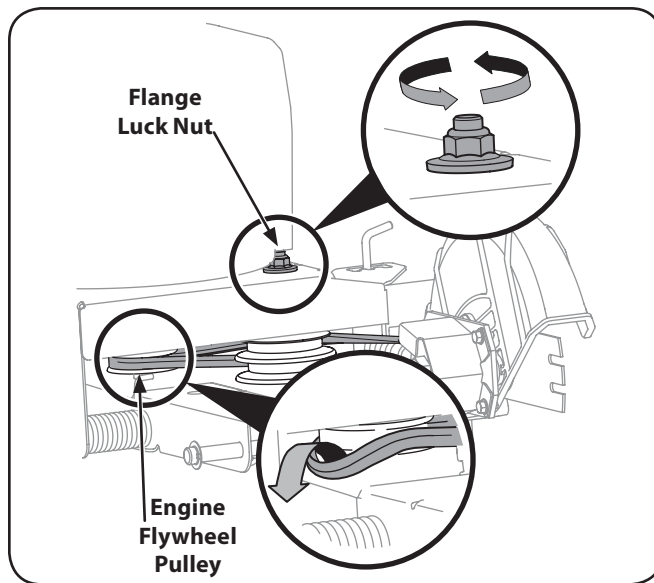

Figure 7-1
NOTE: To aid in reassembly, note the orientation of the drive belt on the two idler pulleys and the engine flywheel pulley prior to performing the following steps. Refer to Fig. 7-1.
1. Working in front of the edger, loosen the flange lock nut on top of frame, allowing the idler pulley assembly to pivot slightly out from the frame. See Fig. 7-1.
2. With your other hand, carefully reach under the rear of the edger and remove the belt from around the engine flywheel pulley. See Fig. 7-1.